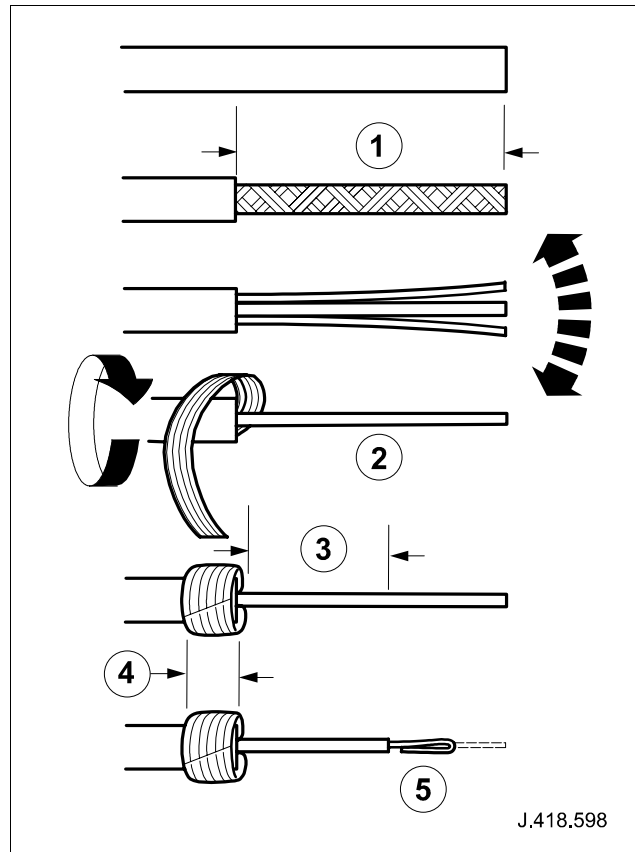

Fig. 21
- 64 Measure off 50mm from cut end of new antenna lead. (1 Fig. 21)
67 Spiral-wrap earth braiding around new antenna lead outer insulation. (2 Fig. 21)
68 Measure off 25mm along new antenna lead inner insulation from earth braiding. (3 Fig. 21)
71 Fold back on itself new antenna lead center cable. (5 Fig. 21)